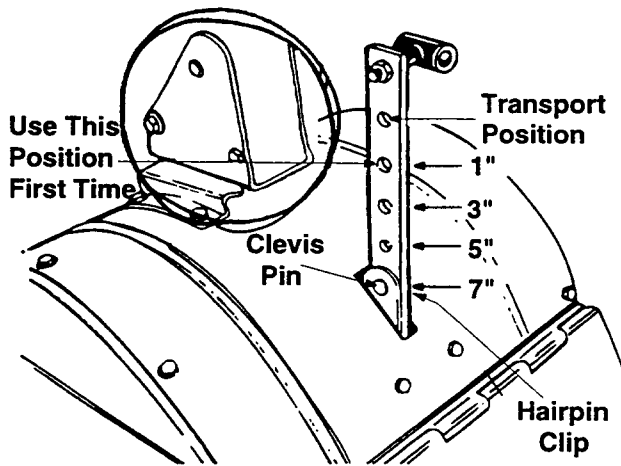

Figure 9
5. To adjust the depth stake, remove the clevis pin and hairpin clip. See Figure 9. Move the depth stake to the desired setting.